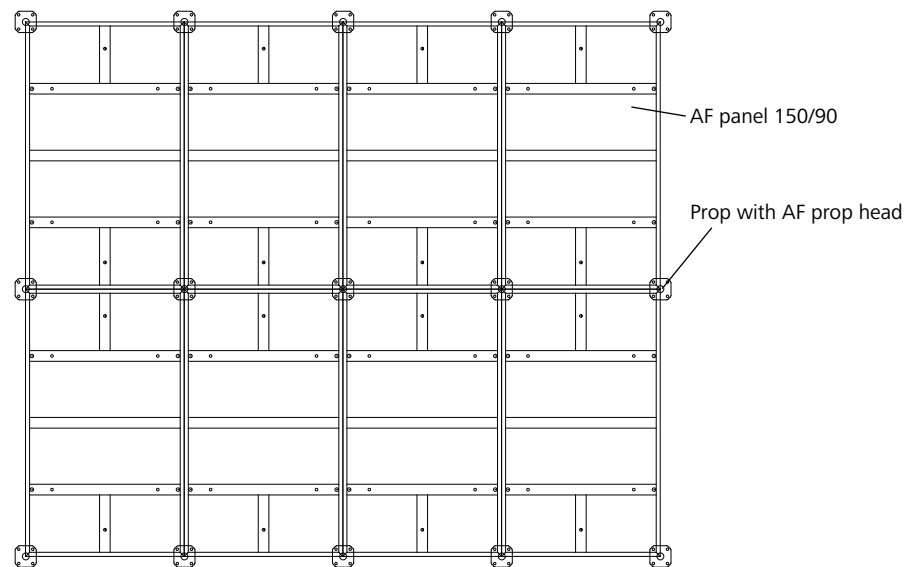

Fig. 10.2
* Intermediate values can be found in Fig. 10.2. Round up values found to full millimetres.
Permissible loading when using AluFix 150/90 (Fig. 10.2)